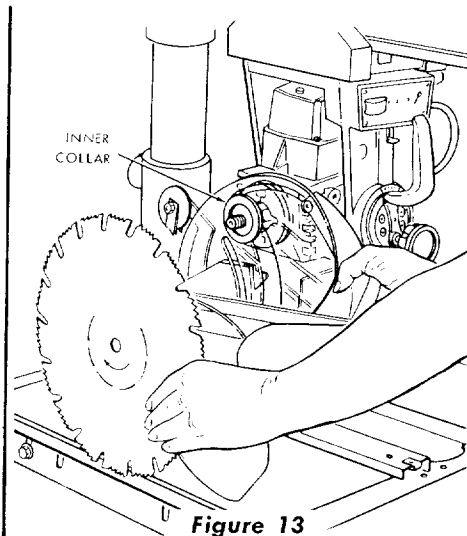

Figure 13
- Grasp the saw blade, slide it off the shaft and out of the guard. (See figure 13.) Remove the inner collar and guard. Place the guard and blade out of work area.